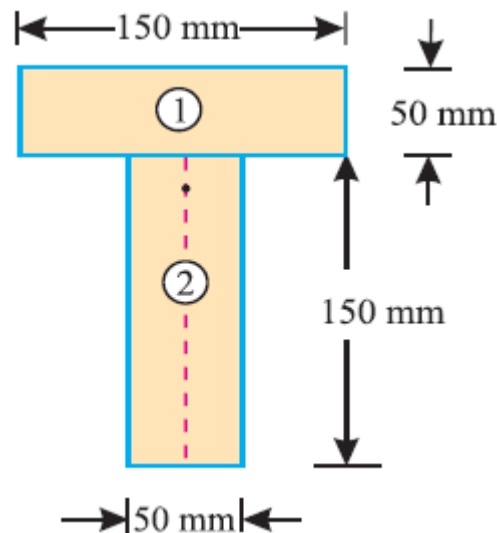

Fig.20
4. Find the moment of inertia of a T-section with flange as 150 mm × 50 mm and web as 150 mm × 50 mm about X-X and Y-Y axes through the centre of gravity of the section as shown in fig..20